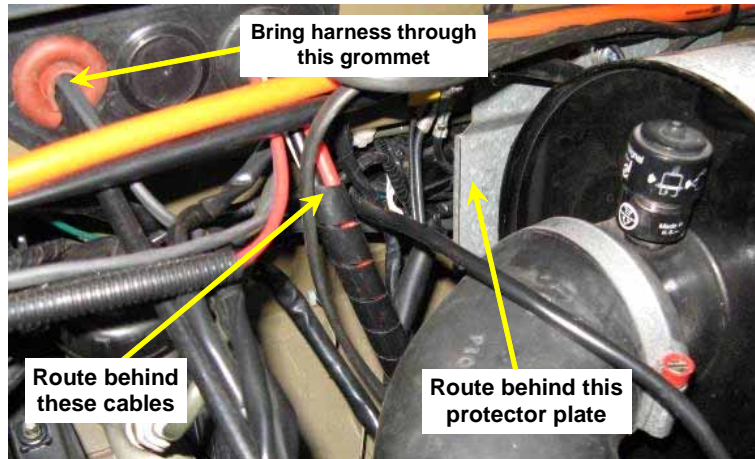

Figure 41 Sense Wire Harness Routing Through Firewall
- (2) Route the yellow and brown wires in the long sheathed leg of the sense wire harness through the same grommet in the firewall as the speedometer cable (Figure 41) and the pull the full free length of these sheathed wires into the engine bay.
- (3) In the engine bay, route the sheathed wires behind the adjacent cable looms and into the firewall recess that is covered by the harness protector plate behind the air cleaner (Figure 41). Continue across to the left side of the vehicle and then down the firewall and under the cabin into the left-hand side battery enclosure along the same line as the auxiliary alternator harness.
- (4) Use cable ties (Table 1, Item 87) to secure the sense wire harness across the firewall and along the line of the alternator harness into the side battery enclosure. All final connections in the left-hand side battery enclosure will be made later in this procedure.
- (5) At the back of the instrument panel, disconnect the positive (white) and negative (black) wires from the quick disconnect terminals on the voltmeter.
- (6) Connect the two piggyback terminals in the sense wire harness to the positive (white wire, although it can be green) and negative (black wire) terminals on the voltmeter, and then reconnect the original positive (white/green) and negative (black) wires to the corresponding piggyback terminals.